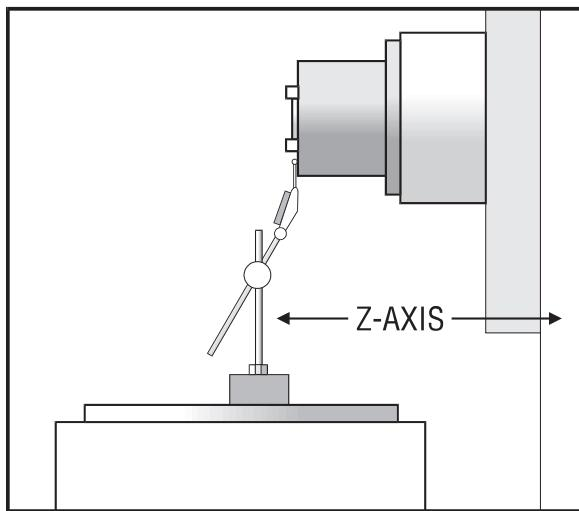

Figure 1-3. Dial indicator in position to check Z-axis.
1. Set up a dial indicator and base on the mill table as shown in Fig. 1-3.
An alternate method for checking backlash is to place the dial indicator as shown in Fig. 1-3 and manually push the column forward and back while listening for a 'clunk'. The dial indicator should return to zero after releasing the column.